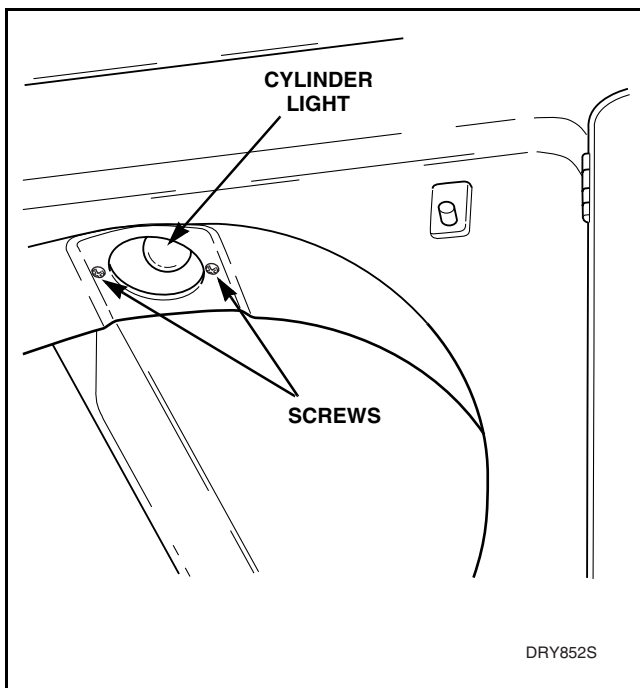

Figure 28
Open loading door and remove bulb through top opening in the front bulkhead by turning bulb to the left. Refer to *Figure 28*.
- Remove two screws holding receptacle to front bulkhead. Refer to *Figure 28*.